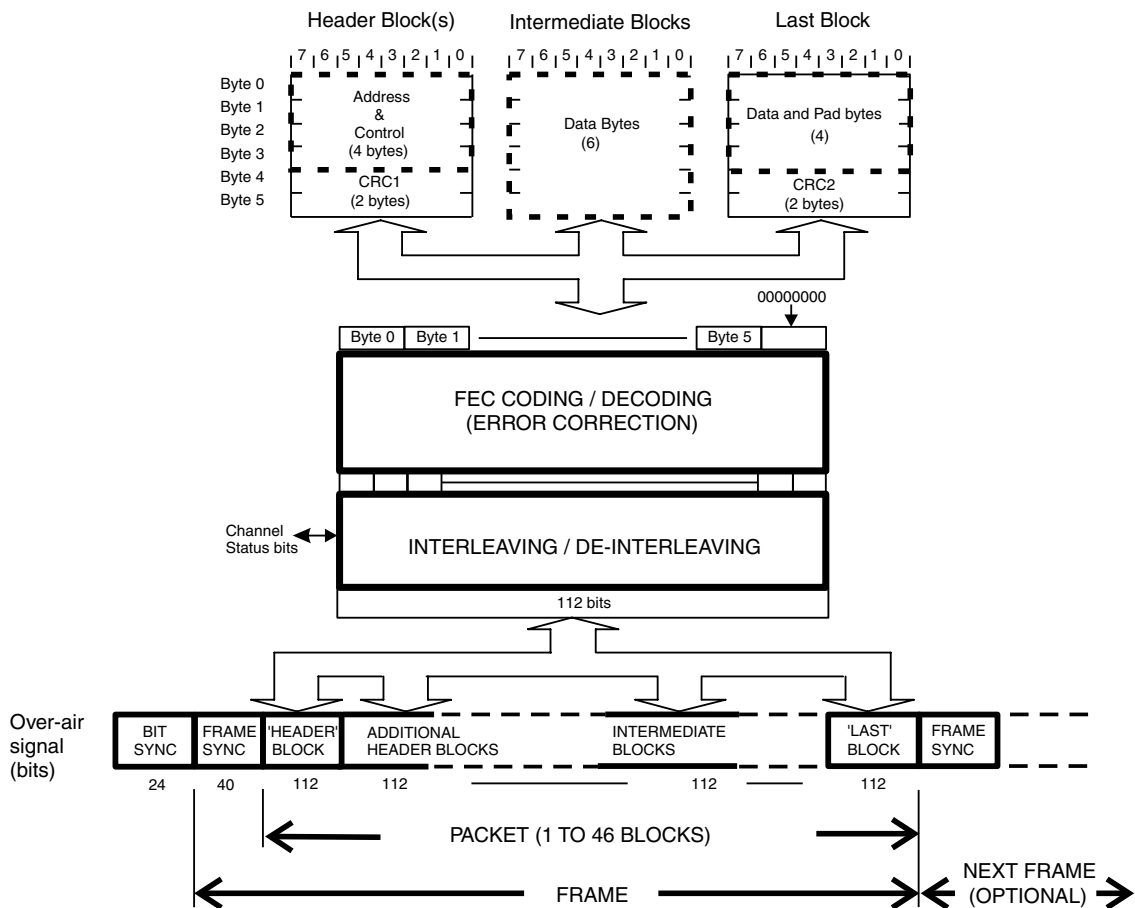
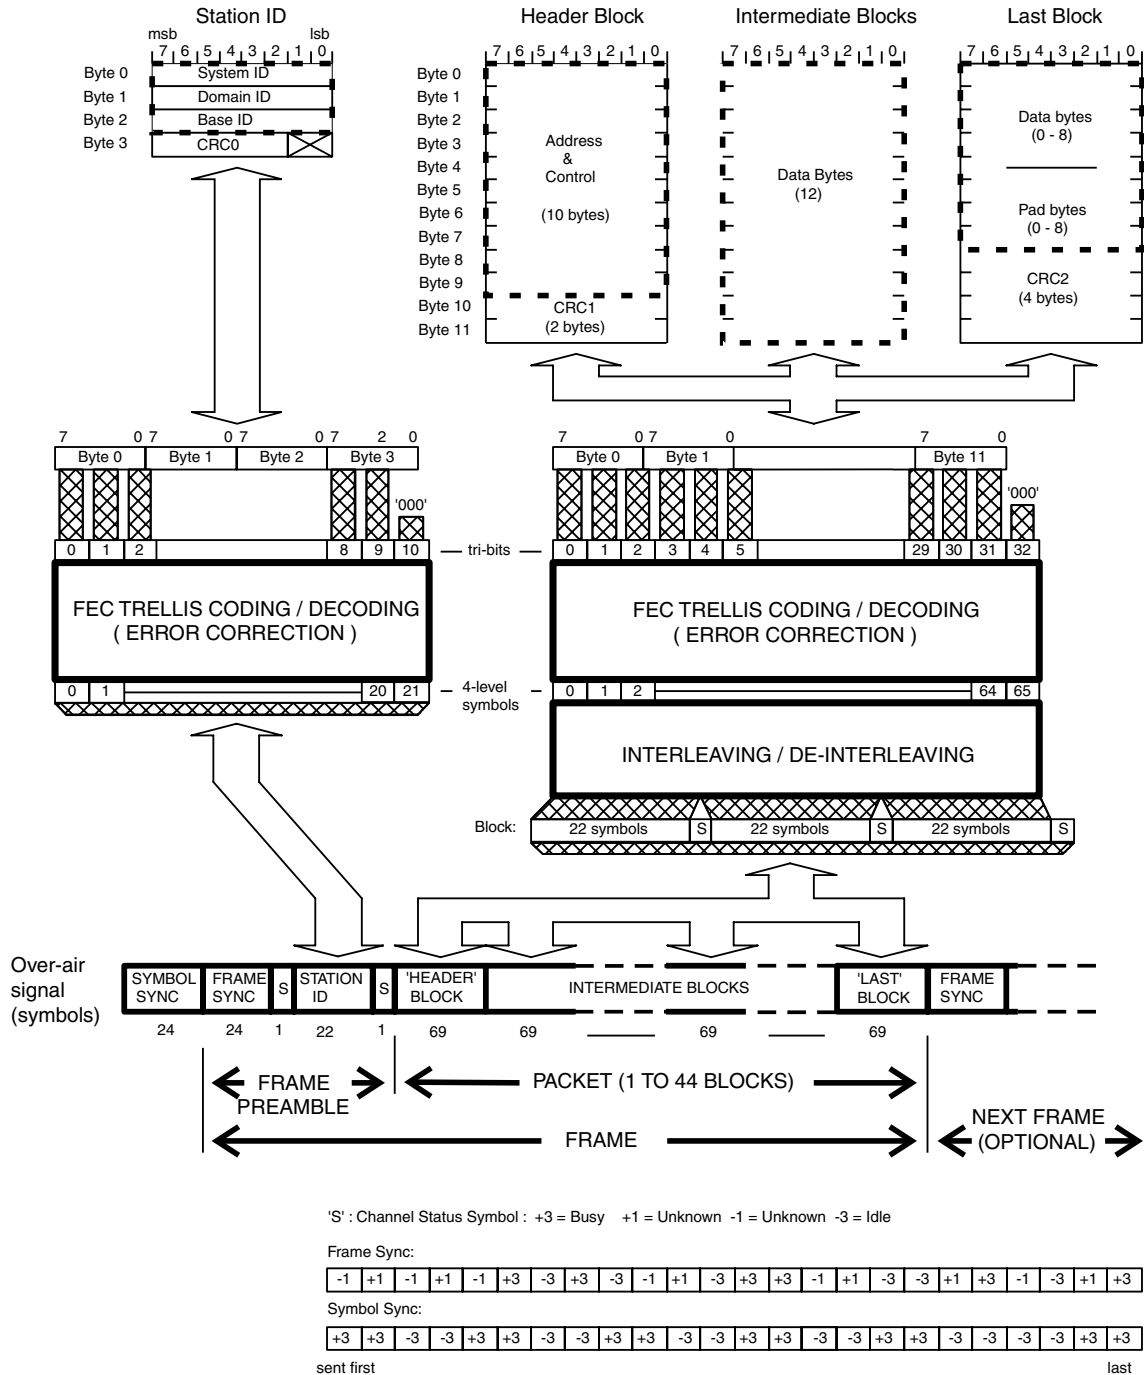

Figure 5: MDC Over Air Signal Format
Figure 6: RD-LAP Over Air Signal Format
In general, data is transmitted over-air in the form of messages, or 'Frames', consisting of a 'Frame Preamble' followed by one or more formatted data blocks. The Frame Preamble includes a Frame Synchronization pattern designed to allow the receiving modem to identify the start of a frame. The following data blocks are constructed from the 'raw' data using a combination of CRC (cyclic redundancy checksum) generation, Forward Error Correction coding and Interleaving. Details of the message formats handled by the modem are given in Section 4.4 and Figure 5 and Figure 6.
In both RD-LAP and MDC modes the CMX969 performs all of the block formatting and de-formatting, the binary data transferred between the modem and its μ C being that enclosed by the thick dashed rectangles near the top of Figure 5 and Figure 6.
The CMX969 Frame Structure in MDC mode is illustrated in Figure 5, and consists of a Frame Synchronization pattern followed by one or more 'Header' blocks, one or more 'Intermediate' blocks and a 'Last' block. Channel Status bits are included at regular intervals. The first Frame of any transmission is preceded by a Bit Synchronization pattern.
The CMX969 Frame Structure in RD-LAP mode is illustrated in Figure 6, and consists of a Frame Preamble (comprising a 24-symbol Frame Synchronization pattern and Station ID block) followed by one or more 'Header' blocks, one or more 'Intermediate' blocks and a 'Last' block. Channel Status (S) symbols are included at regular intervals. The first Frame of any transmission is preceded by a Symbol Synchronization pattern.